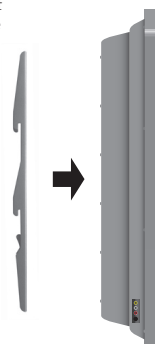

Fig. 2 - Attach the arms to the back of your display
3. Attach the arms to the back of your display using the bolts identified in Steps 1 and 2 along with the corresponding Lock Washer (C, F, I, or L) (see Fig. 2 and 3).
- A. If you are using the M4, M5, or M6 bolts (Bags 1, 2, and 3 respectively), you will also need to use the M6 Washers (O).
- B. If you are using one of the longer bolts on a display with a curved or recessed back, you will also use a Spacer (M or N). Use the Smaller Spacer (M) for M4 and M5 bolts and the Large Spacer (N) for M6 and M8 bolts.